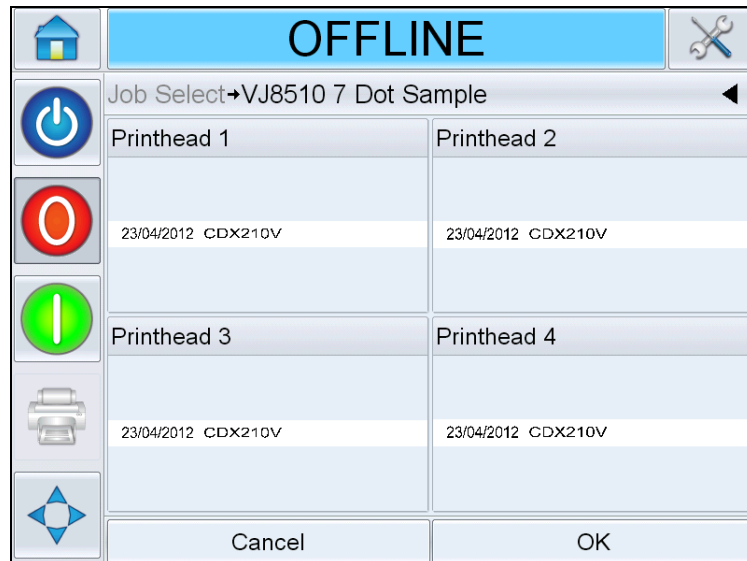

Figure 6-30: Job Select Preview
- c. You can preview the assigned job (Figure 6-30).